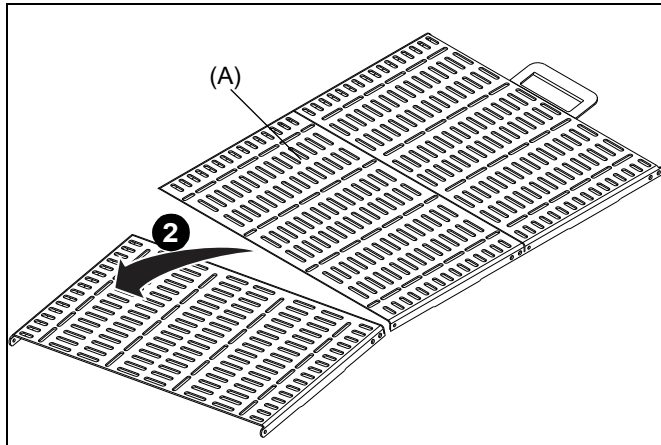

Figure 1
1. Determine if entire accessory desk plate (A) will be used or if should be separated.
2. (Optional) Separate extra section(s) of desk plate (A) if necessary. The plate can be broken down into thirds depending on space available and user preference. (See Figure 1)